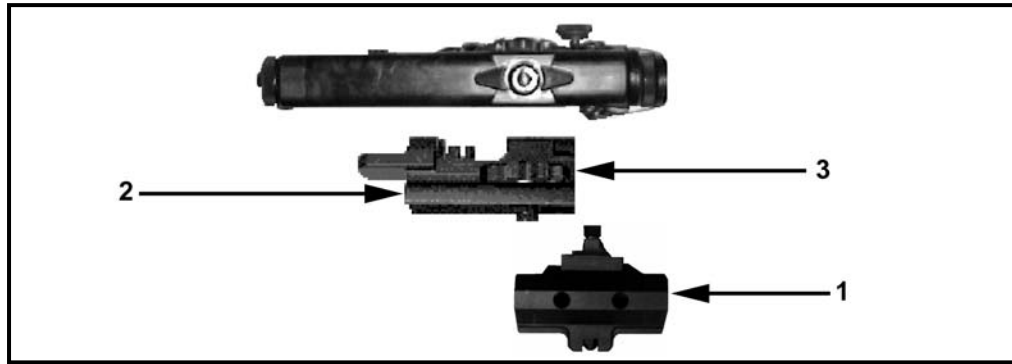

Figure 2-33. MILES training extender bracket installation on M16-/M4-series weapons.
c. **M16/M4 MILES Mounting Procedures** (Figure 2-33). When conducting MILES training with the Insight rail grabber (1) or bracket assembly (4), the AN/PEQ-2A is attached to the M16-/M4-series weapons using the training extender bracket (2). The training extender is hand tightened by turning the thumb wheel (3) on the training extender clockwise. The training extender bracket is not required when mounting the AN/PEQ-2A onto the side of the MWS. The Picatinny rail grabber does not require the training extender. (For further information refer to TM 11-5855-308-12&P.)